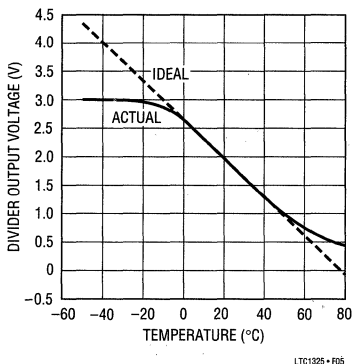

Figure 5. ERT-D2FHL103S Divider
Both values of β are close to each other. Substituting $\beta = 4085\text{k}$ into equation (3) gives $R_L = 10\text{k} [4085 - (2 \times 298)]/[4085 + (2 \times 298)] = 7.45\text{k}$. The nearest 1% resistor value is 7.5k. Figure 5 shows a plot of $V_{DIV}(T)$ measured at various temperatures for this thermistor with a 7.5k R_L .
Note that the discharge limits are wider than the charge limits. To prolong battery life, manufacturers generally recommend discharge temperatures that are similar to the charge limits. For this reason, the LTC1325 recognizes the same LTF and HTF limits in both charge and discharge modes. MCV should be set just above the charging voltage per cell given in battery specifications. The voltage at the LTF and HTF pins should be set to correspond to narrowest temperature range. These are typically 15°C and 45°C. The corresponding voltages may be read from the thermistor divider temperature curve such as that shown in Figure 5. For this thermistor, it works out to be about for 2.12V for LTF and for 1.13V for HTF. The MCV may be conveniently tied to LTF since MCV is typically 2V. If desired, external analog switches under microprocessor control may be used to vary the LTF, HTF and MCV voltages between modes or for different charge rates. The values of R_1 , R_2 , R_3 and R_4 in Figure 3 can be calculated from the following equations: